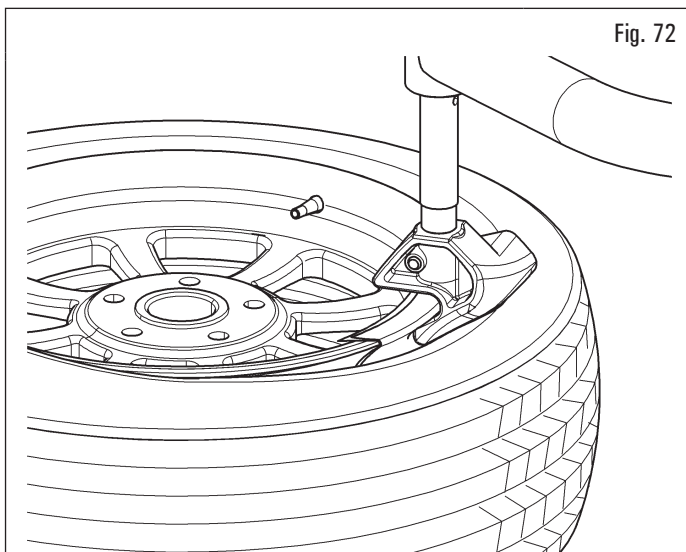
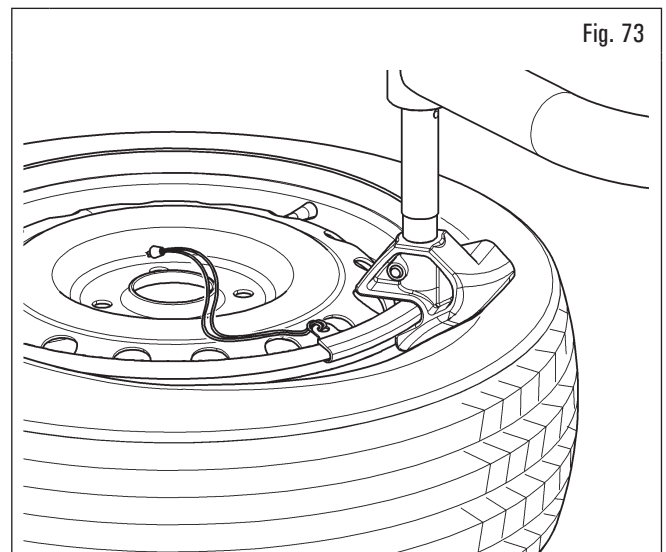

Fig. 72
Fig. 73
11. insert the wedge tool on the edge of the rim at the right end of the bead protection foil (Fig. 72) or the bead protector (Fig. 73) applied to the edge of the rim;